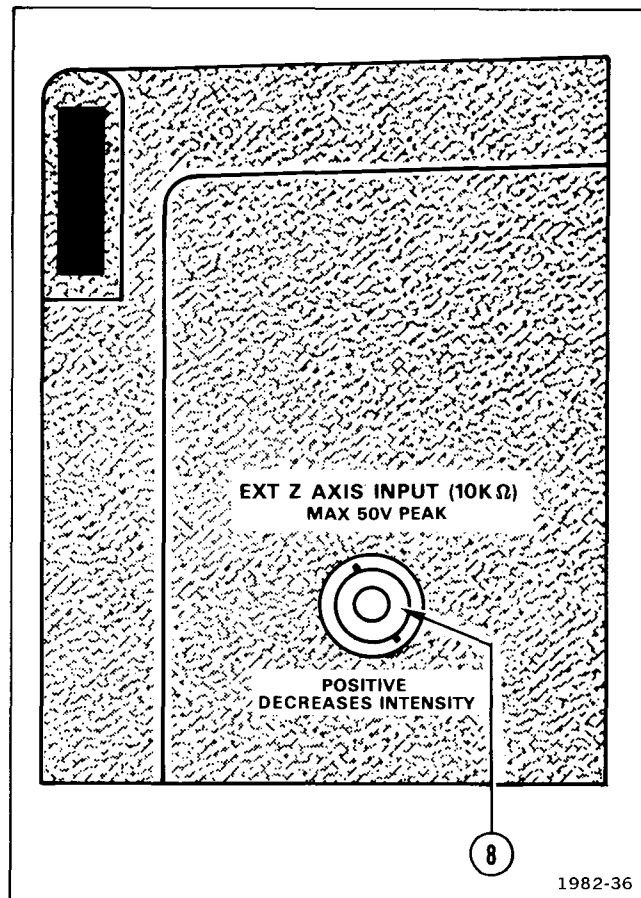

Fig. 2-2. Rear panel controls and connectors.
- ④ **PROBE COMP**—Provides a square-wave output of approximately 0.5 V (negative-going with respect to ground) at approximately 1 kHz, for compensating voltage probes.
- ⑤ **ON-OFF**—Push-push switch turns the instrument power on (button in) and off (button out).
- ⑥ **POWER**—Indicator LED lights when ON-OFF button is depressed to ON (in) position and applied power input voltage does not vary more than about 10% from the value indicated by the 120 V/240 V and HI/LO voltage selector switch settings. When applied power input voltage varies more than about 10% (either high or low) from the selected value, the LED will blink.
- ⑦ **Internal Graticule**—Eliminates parallax. Risetime, amplitude, and measurement points are indicated at the left edge of the graticule.
**Rear Panel (Fig. 2-2)**